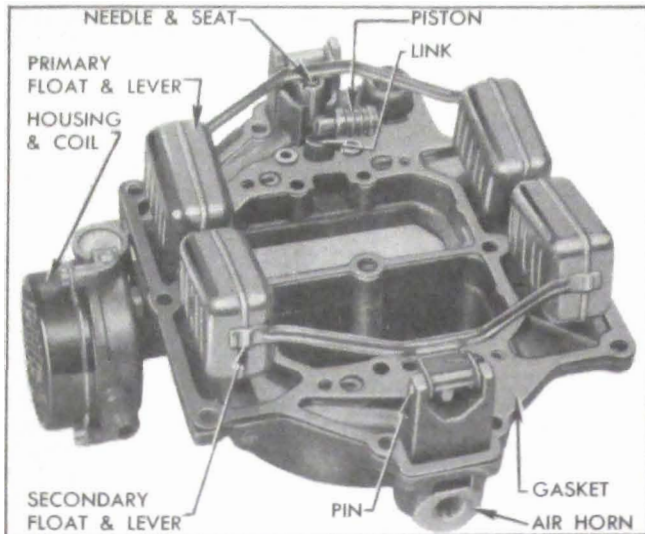

Figure 3-46—Parts on Air Horn (Inverted)
6. Swing vacuumer piston  $\frac{1}{4}$  turn to remove it from piston link then remove link from air horn. See figure 3-46.